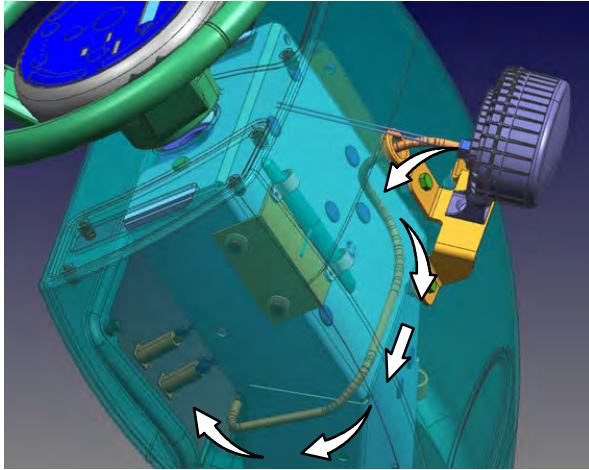

FIG. 30
- 12.Route the blue spotlight harness (3) between the front shroud and steering channel, around the right side of the steering channel, and to the circuit breaker bracket. (Fig. 30)